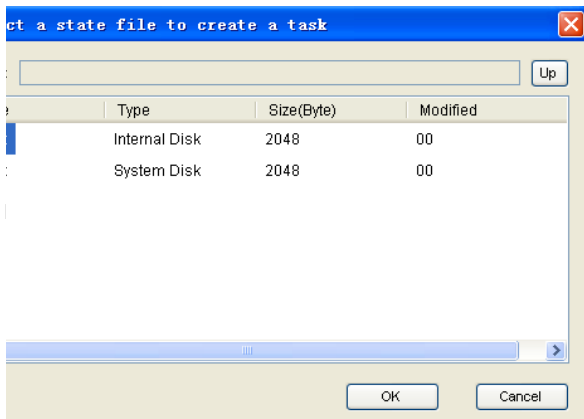

Figure 4 Select a state file
- Double click the "Driver C" in the "Select a state file to create a task" dialog box as shown in Figure 4